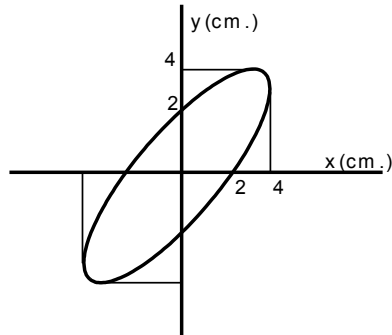

Figure.4
2.1 The Lissajous pattern shown in figure.4 is observed on the CRT screen. Find the phase shift between the signals applied to the X and Y inputs of the scope.